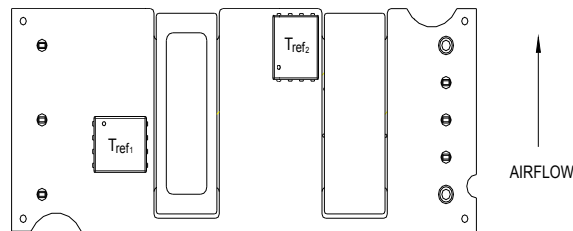
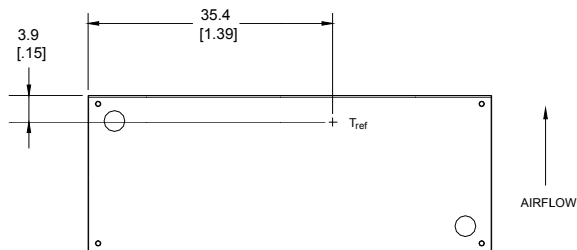

Figure 13.  $T_{ref}$  Temperature Measurement Locations for Open Frame Module.
Figure 14.  $T_{ref}$  Temperature Measurement Location for Module with Heat plate.
To provide protection under certain fault conditions, the unit is equipped with a thermal shutdown circuit. The unit will shutdown if the thermal reference point,  $T_{ref}$ , exceeds 135 °C (Figure 13, typical) or 120 °C (Figure 14, typical), but the thermal shutdown is not intended as a guarantee that the unit will survive temperatures beyond its rating. The module will automatically restart upon cool-down to a safe temperature.
The thermal reference points,  $T_{ref1}$ , &  $T_{ref2}$ , used in the specifications for open frame modules are shown in Figure 13. For reliable operation these temperatures should not exceed 120 °C and 124 °C
The thermal reference point,  $T_{ref}$ , used in the specifications for modules with heatplate is shown in Figure 14. For reliable operation this temperature should not exceed 98 °C.